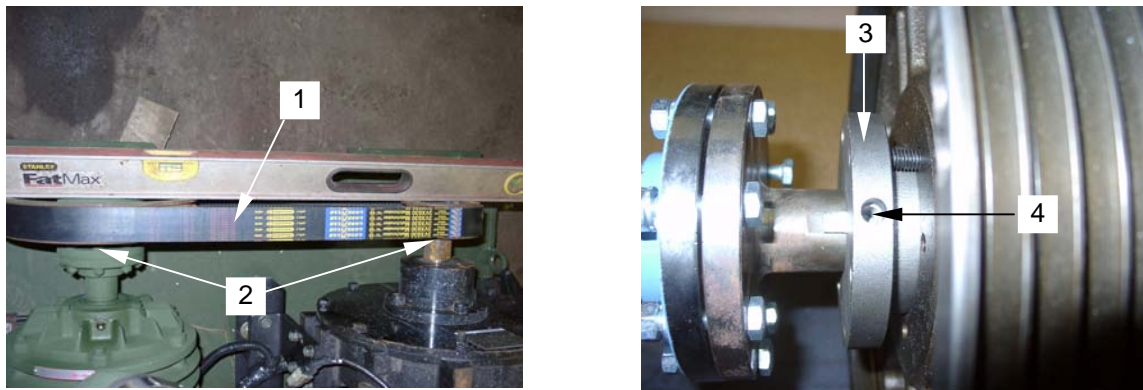

Figure 11. Installing Pulley
17. Install retained, or new drive belt (**figure 11, item 1**) (refer to WP 0029 00 as necessary).
18. Align vacuum pump and engine pulleys (**figure 11, item 2**) as shown, moving the vacuum pump pulley adapter (**figure 11, item 3**) slightly to make adjustments.
19. Install and tighten setscrew (**figure 11, item 4**) on pulley adapter (**figure 11, item 3**).